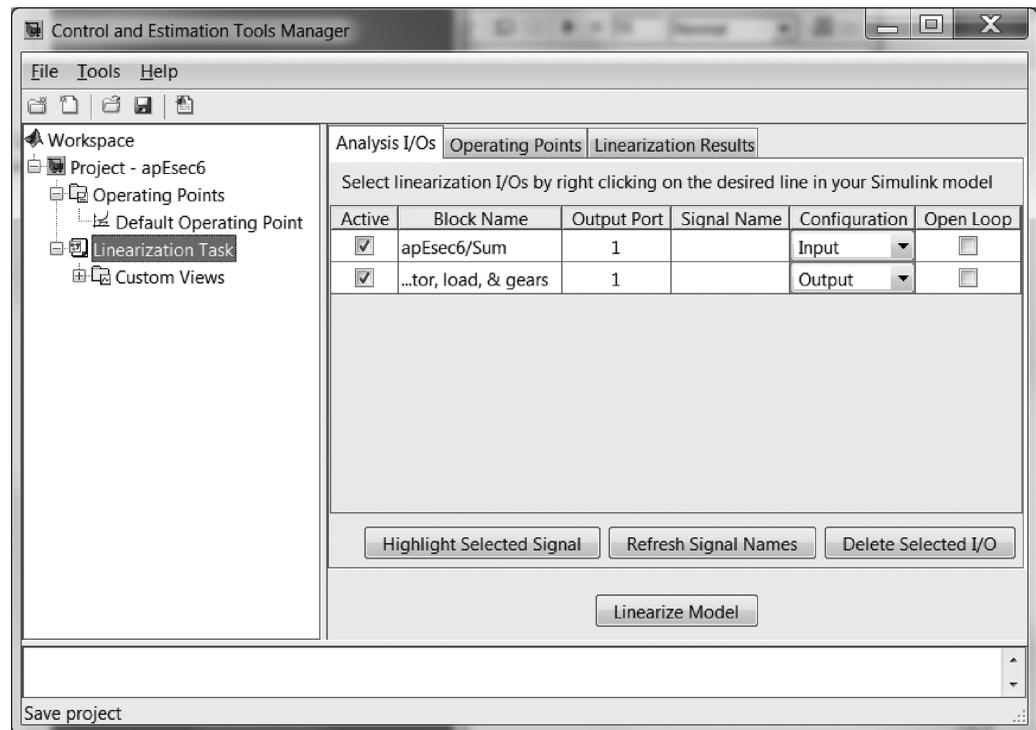

FIGURE E.8 Control and Estimation Tools Manager window
3. **Linearize the model** Under the **Tools** menu select **Control Design** followed by **Linear Analysis . . .** In response, **MATLAB** opens the **Control and Estimation Tools Manager** Window, Figure E.8.